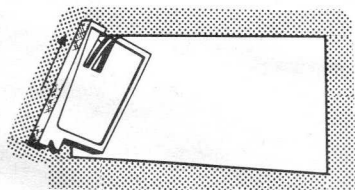

Fig. 1a
- Slide one of the end pieces into position in the window cut in the front plate; Figs. 1a and 1b show this for the left-hand end piece.